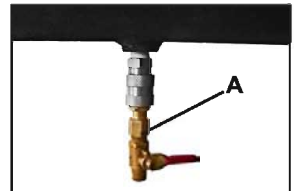

FIGURE 4
**DRAIN VALVE (A) FIG. 4.** The drain valve is located at the base of the air tank and is used to drain condensation from the tank to prevent corrosion. Drain tank after each use.
- D. Fully open the drain valve (A) Fig. 4, by turning it counterclockwise, to prevent air pressure build-up in the tank.
10. Drain water from air tank. Turn drain valve (A) Fig. 4, counterclockwise to open.
5. Drain water from air tank. Turn drain valve (A) Fig. 4, counterclockwise, to open.